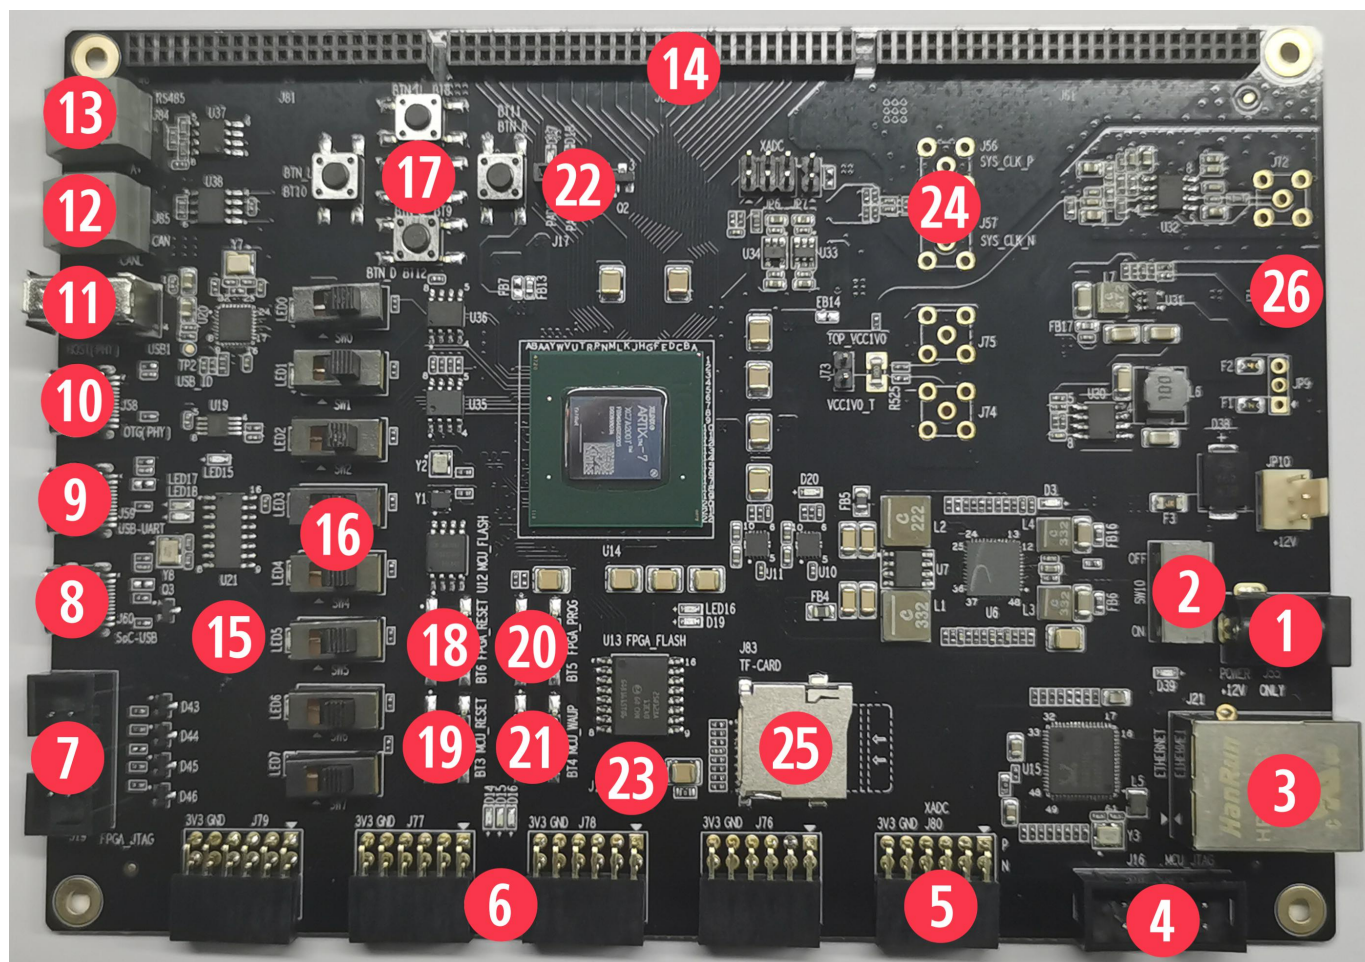
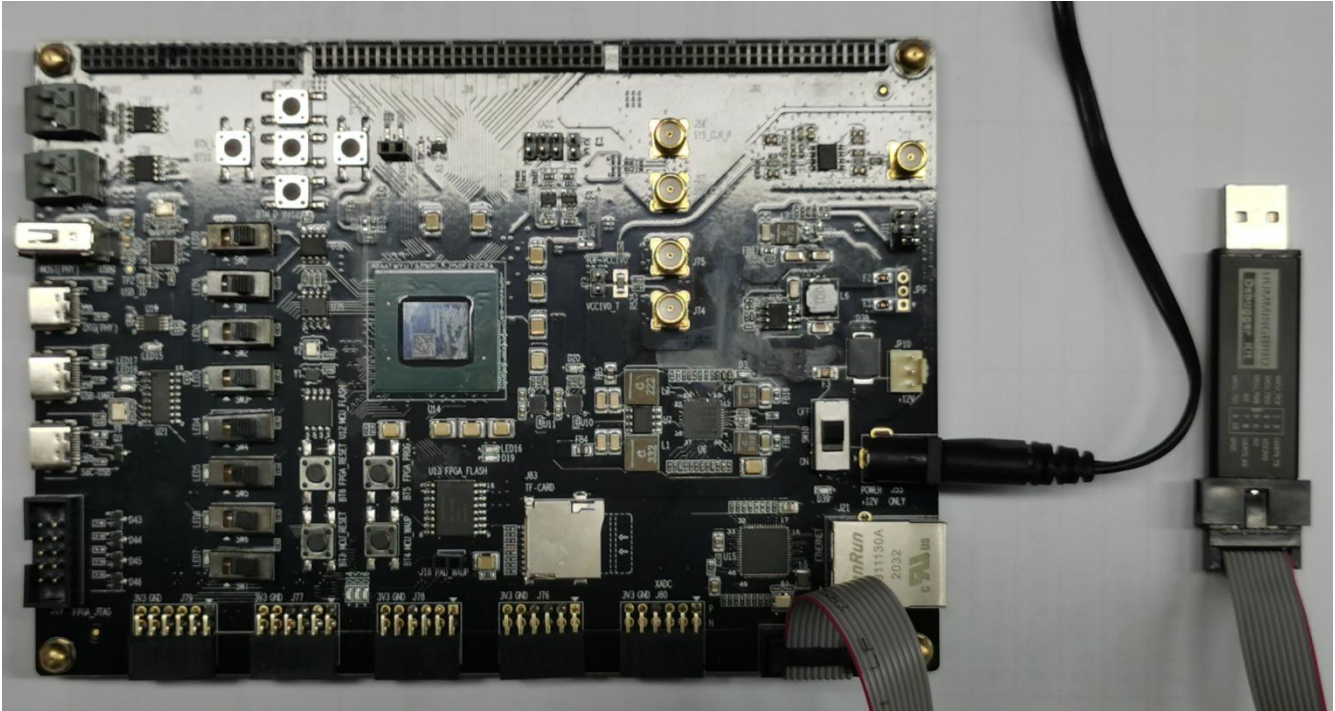

Figure 3-1 Board Hardware Resources
Figure 3-2 Connecting MCU200T FPGA board and Debugger Kit with PC
MCU200T Evaluation Kit is an intermediate-level FPGA board based on Xilinx FPGA, as depicted in Figure 3-1 the hardware resource (marked as with different numbers in above picture) of this board is described as follows.
- The SoC have the “System Reset” pin, and the FPGA project mapped the pin to the board MCU_RESET button, as depicted in the Figure 3-1 mark [19].
- The SoC have the “PoR Reset” pin, and the FPGA project mapped the pin to the board FPGA_RESET button, as depicted in the Figure 3-1 mark [18].
- The SoC have JTAG pins and UART0 pins (pin-mux to GPIO_16 and GPIO_17 of the SoC), and the FPGA project mapped these pins to the board MCU_JTAG interface socket, as depicted in the Figure 3-1 mark [4]. The “MCU200T Debugger Kit” can be connected to this socket, as depicted in Figure 3-2, and then be used to debug the RISC-V core (burned inside FPGA).
As described in Section 3.2.1, one of the purposes of “MCU200T Evaluation Kit” is to be as the regular FPGA board. To achieve this goal, there are push buttons , switches and LED lights, as depicted in the Figure 3-1 mark [17] [16] [15]. User can utilize these on-board resource to control the SoC, for examples as below:
- The switches (as depicted in the Figure 3-1 mark [16]) connect directly to FPGA GPIO. User can rewrite the constraint file(.xdc) to connect it to MCU_GPIOx pins, then to use the switch to control the MCU_GPIO input value.
- The LED lights (as depicted in the Figure 3-1 mark [15]) connect directly to FPGA GPIO. User can rewrite the constraint file(.xdc) to connect it to MCU_GPIOx pins, then to use the MCU_GPIO output value to control the LED lights.
- The push buttons (as depicted in the Figure 3-1 mark [17]) connect directly to FPGA GPIO. User can rewrite the constraint file(.xdc) to connect it to MCU_GPIOx pins, then
// Step 8: If the above step succeeded, user can push FPGA board's "FPGA_PROG" button (as depicted in the Figure 3-1 mark [20]), it will trigger the FPGA to load the Bitstream from the SPI Flash into the FPGA chip and make it start to work.